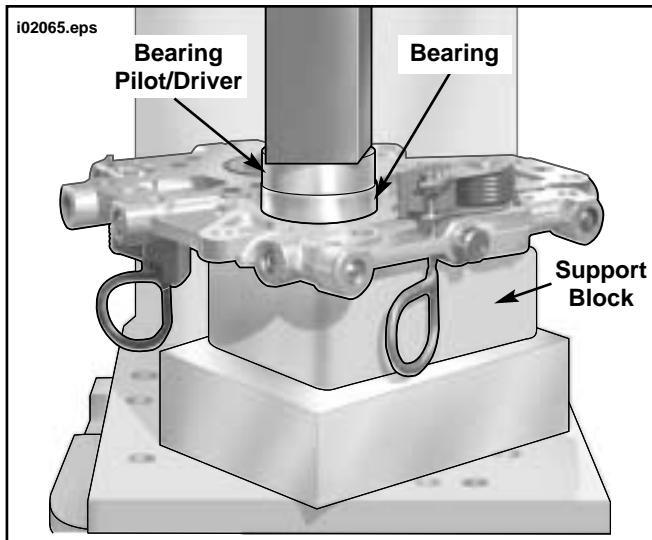

Figure 5. Press Bearings into Cam Support Plate
- d. See Figure 5. Center bearing driver under ram of arbor press. Press on driver until bearing makes firm contact with counterbore in cam support plate. Repeat Steps to install second bearing.